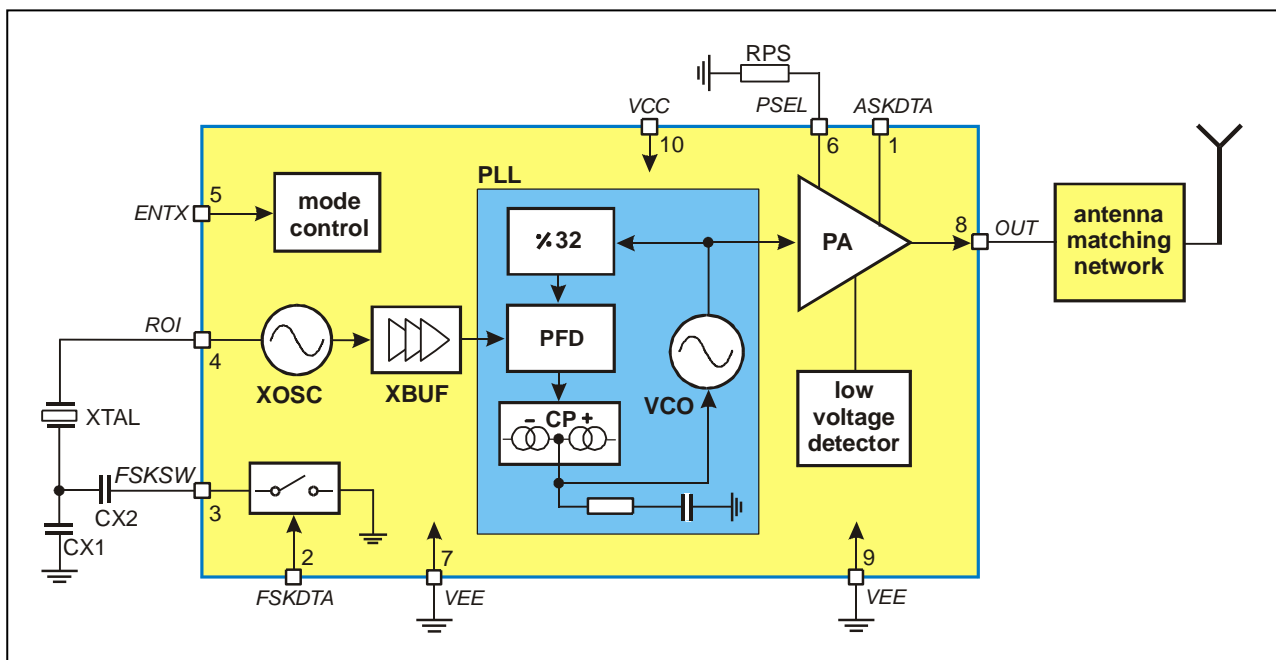

Fig. 1: Block diagram with external components
As depicted in Fig.1, the TH72005 transmitter consists of a fully integrated voltage-controlled oscillator (VCO), a divide-by-32 divider (div32), a phase-frequency detector (PFD) and a charge pump (CP). An internal loop filter determines the dynamic behavior of the PLL and suppresses reference spurious signals. A Colpitts crystal oscillator (XOSC) is used as the reference oscillator of a phase-locked loop (PLL) synthesizer. The VCO's output signal feeds the power amplifier (PA). The RF signal power  $P_{out}$  can be adjusted in four steps from  $P_{out} = -12$  dBm to +11 dBm, either by changing the value of resistor RPS or by varying the voltage  $V_{PS}$  at pin PSEL. The open-collector output (OUT) can be used either to directly drive a loop antenna or to be matched to a 50ohm load. Bandgap biasing ensures stable operation of the IC at a power supply range of 1.95 V to 5.5 V.